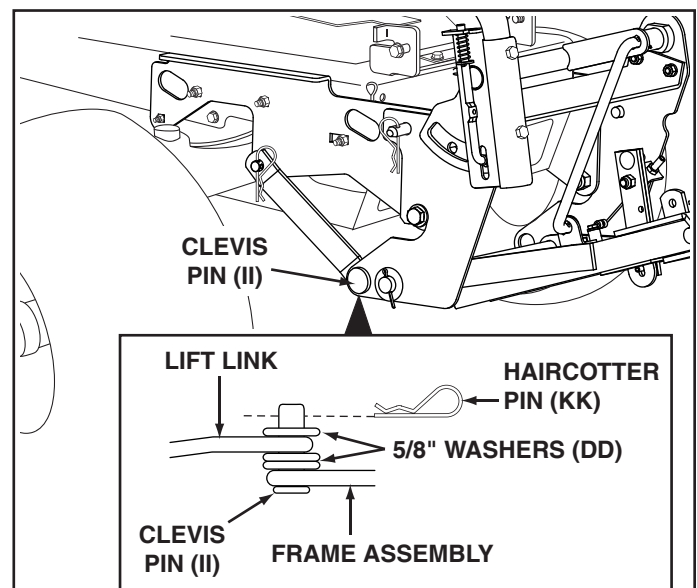

FIGURE 31
STEP 4: (SEE FIGURE 31)
- A. Insert a clevis pin (II) through the frame assembly from the outside.
- B. Place two 5/8" washers (DD) onto the clevis pin.
- D. Place a 5/8" washer (DD) onto the clevis pin and secure with a haircotter pin (KK).